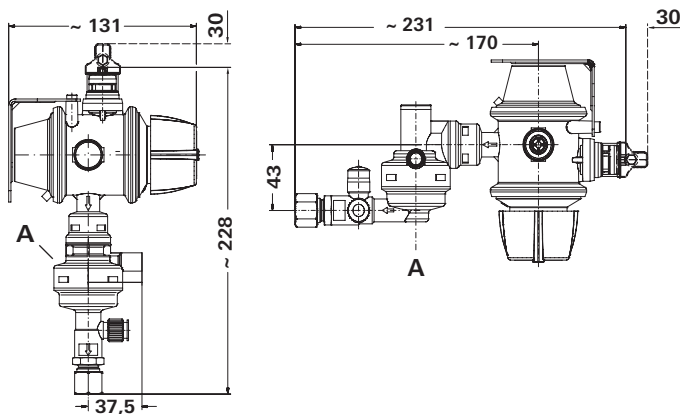

Figure 3 Dimensions in mm. Not shown to scale
- Depending on the version, the DuoControl CS must be fitted to a stable wall in a vertical position or fitted to the top of the gas cylinder box in a horizontal position. The **triggering element** (Figure 3 – A) must always be in a **vertical position**.